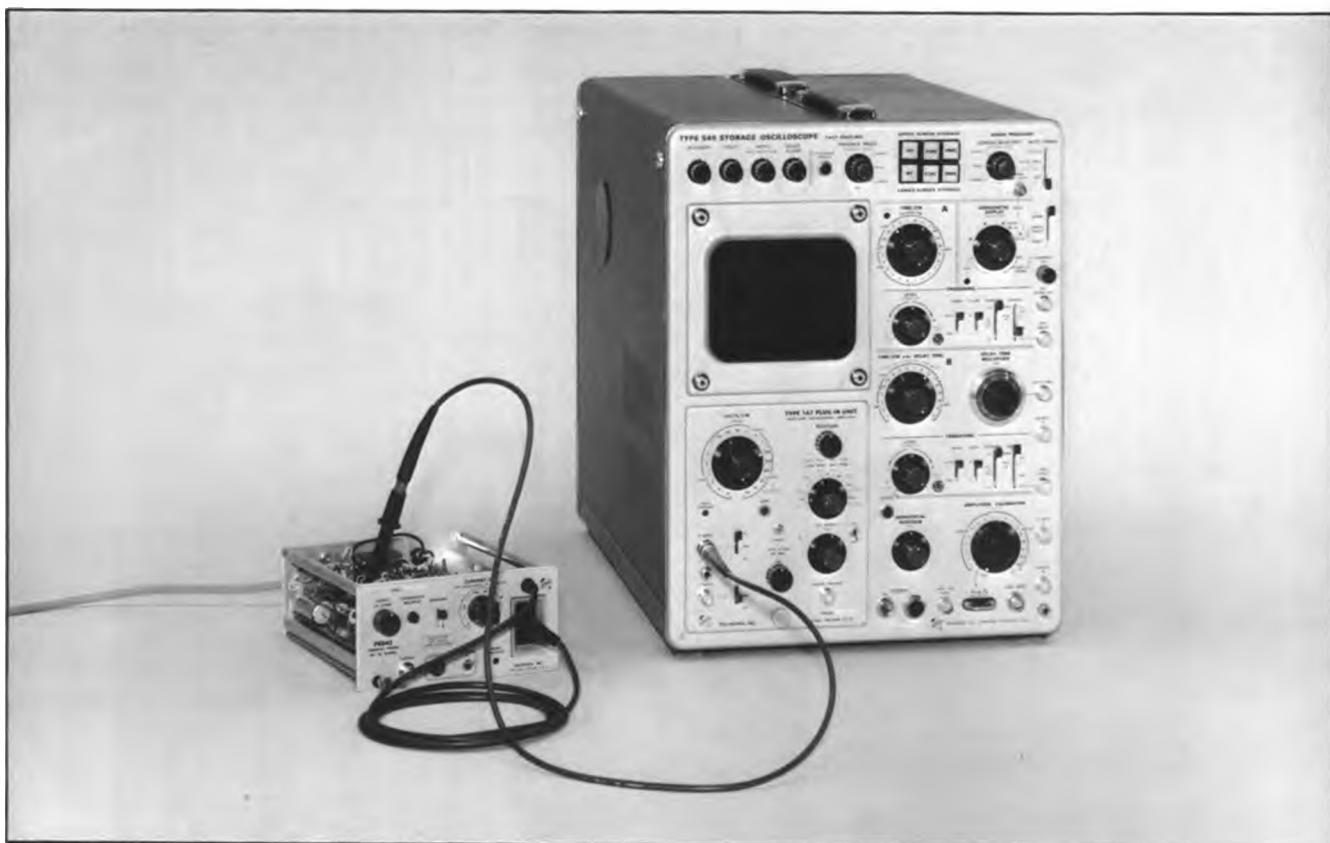

Fig. 6-4. Test setup for step 4.
b. Connect the 1X probe from the + Input to the +16 volt test point. See Fig. 6-4.